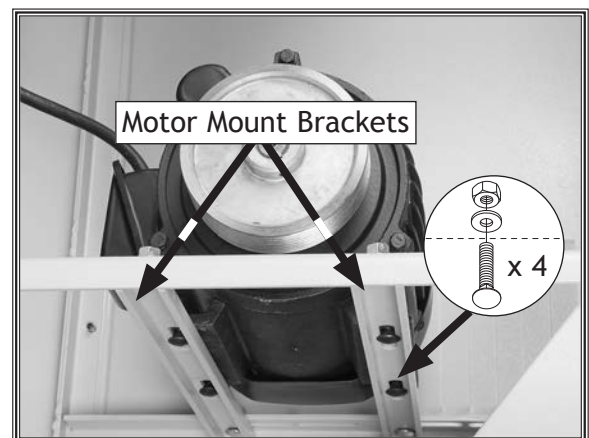

Figure 1. Motor attached to the motor mounts.
7. Place the motor on the two motor mount brackets with the pulley facing the rear of the cabinet, as shown in **Figure 1**.
8. Attach the motor to the motor mount brackets with (4) M8-1.25 x 25 carriage bolts, 8mm flat washers, and M8-1.25 hex nuts (two sets from inventory and two sets that were removed in **Step 4**), as shown in **Figure 1**.